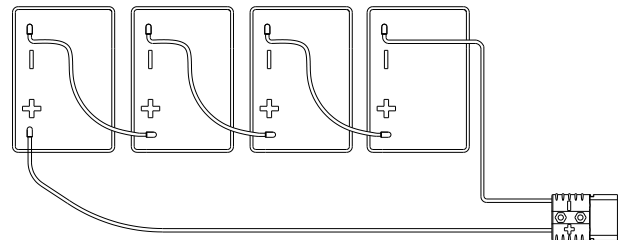

Figure 10
4. Route and install the battery cables (connect the battery negative cable to the machine power cable last and disconnect it first as shown in Figure 10), then carefully tighten the nut on each battery terminal.